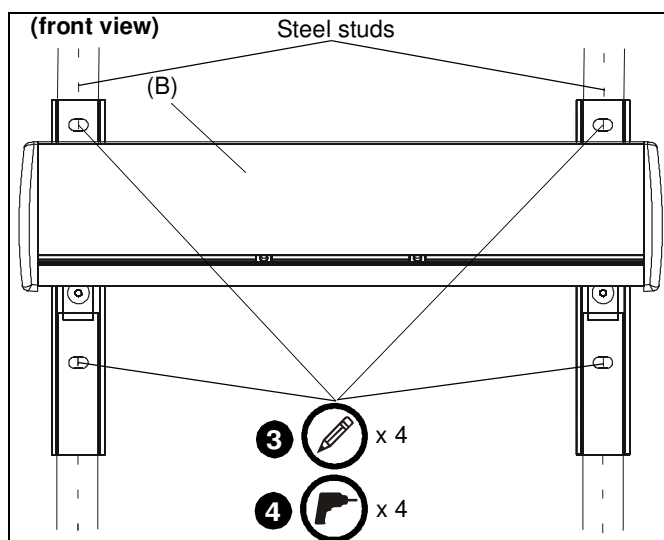

**Figure 7**
5. Install four 5/16 x 2-1/2" hex head lag screws (L) through four 5/16" washers (M), holes of wall bracket and into drilled holes. (See Figure 7)